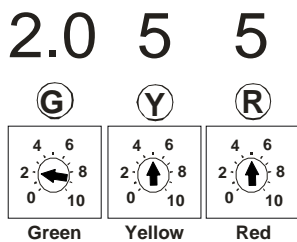
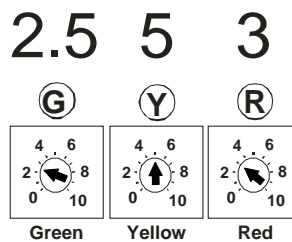

FIGURE 5
FIGURE 6
7. Remove the door from the Fi2000 module to expose the LED's. **NOTE:** The Fi2000 base pot settings come preset from the factory for the Stryker with full exhaust, if a slip-on is used change settings, to those in Figure 6. Verify the wire connections by, (1), turning the ignition on while watching the 3 LED's. They will all light up for a few seconds, and then go off. This is correct. If there are no lights visible, make sure the side stand is up, bike is in neutral, clutch is in and handlebar engine switch is set to run. If there are still no lights visible, re-check that all connectors are fully engaged and the ground wire is connected correctly. (2), after achieving a steady light from all three LED's, start the motorcycle; the green light should now be the only LED on. If all three LED's are still on after start up, verify the injector connectors are correctly attached. Reattach the access door when finished. **NOTE:** Make sure the ignition is turned off before changing any connections.
Your Cobra Fi2000 fuel injection module has been tested and preset for best function and rideability on a motorcycle with aftermarket air cleaner and Cobra full exhaust, settings shown in Figure 5, if your motorcycle is using the Cobra slip-on exhaust, please change to the settings to those in Figure 6. The Fi2000 does however, have 3 important adjustments that allow you to tune the module for optimum performance, especially if you have performed other changes to your motorcycle. These adjustments also allow you to resolve drivability issues if our stock settings are not exactly right for your bike. Make sure your motorcycle is up to normal operating temperature (15 minutes of riding should be sufficient) before making any adjustments.